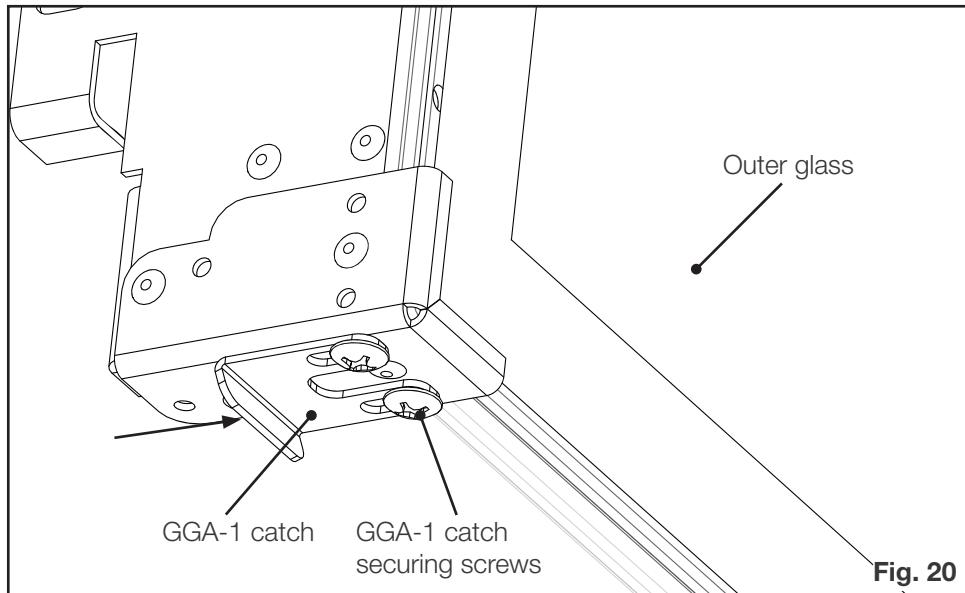

Fig. 20
16. If there is excessive play, the GGA-1 catches on the bottom of the GGA-1 should be adjusted forward to reduce the play to a minimal amount. This is to ensure GGA-1 can still be secured and released smoothly without excessive force (**Fig. 20**).